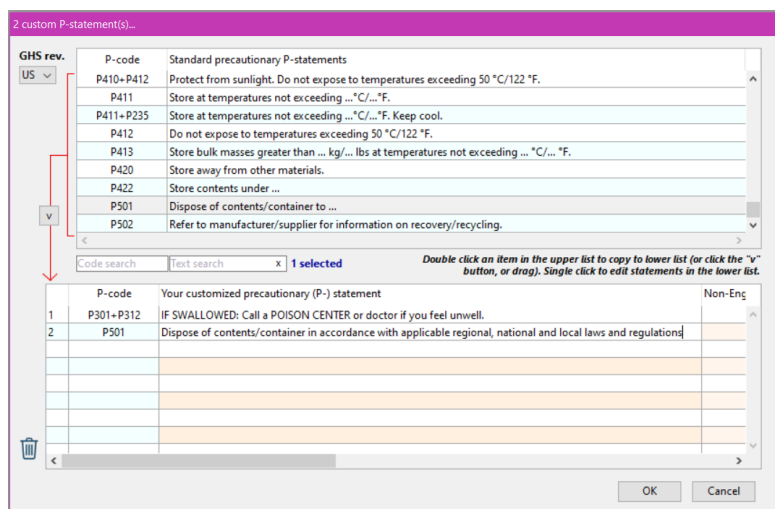

Figure 1: Customize precautionary statements dialog.
1. Go to File (menu) -> Customize P-statements. The program will present a dialog with standard P-statements in the upper list (Figure 1).